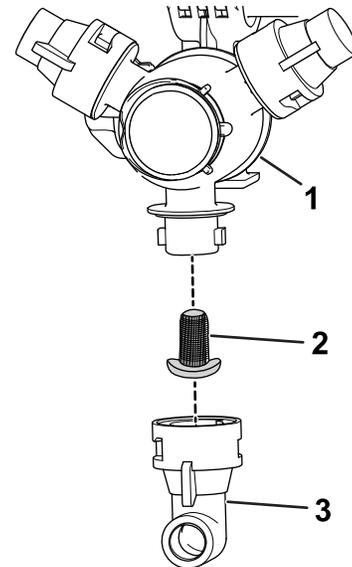

Figure 32
2. Remove the nozzle from the spray turret (Figure 32).
3. Remove the nozzle filter (Figure 32).
5. Install the nozzle filter (Figure 32).
6. Install the nozzle onto the spray turret (Figure 32).